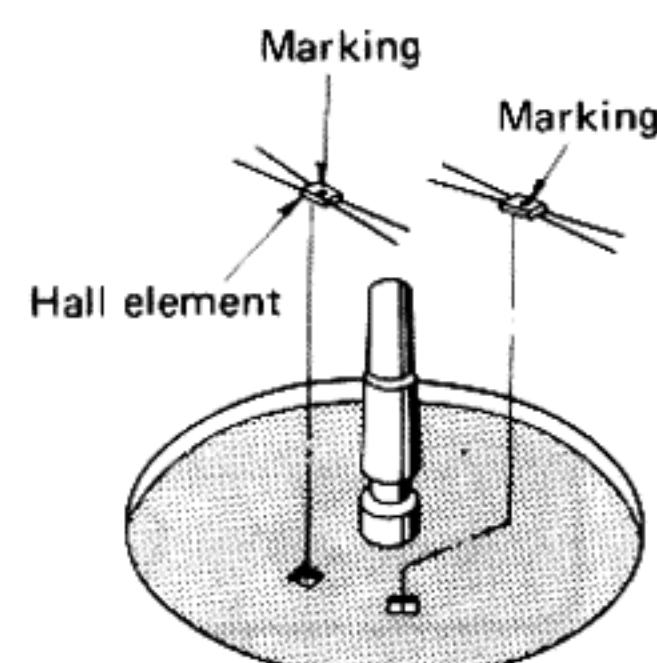

Fig. 10
- * The Hall element should be installed with the marking side up as in Fig. 10.